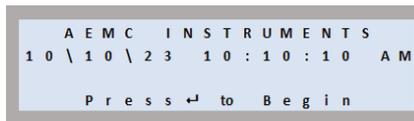

Figure 11
**NOTE:** The battery charge status will not display on the Title screen while the battery is charging (see Figure 11).